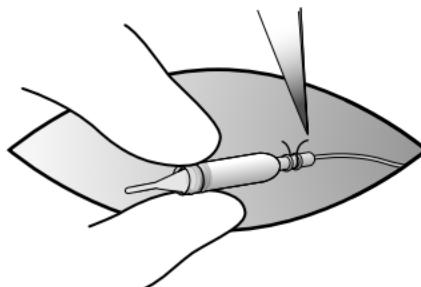

Figure 3. Cut distal ligature over lead end of connector boot.
3. Cut the distal ligature over the lead end of the connector boot (Figure 3).